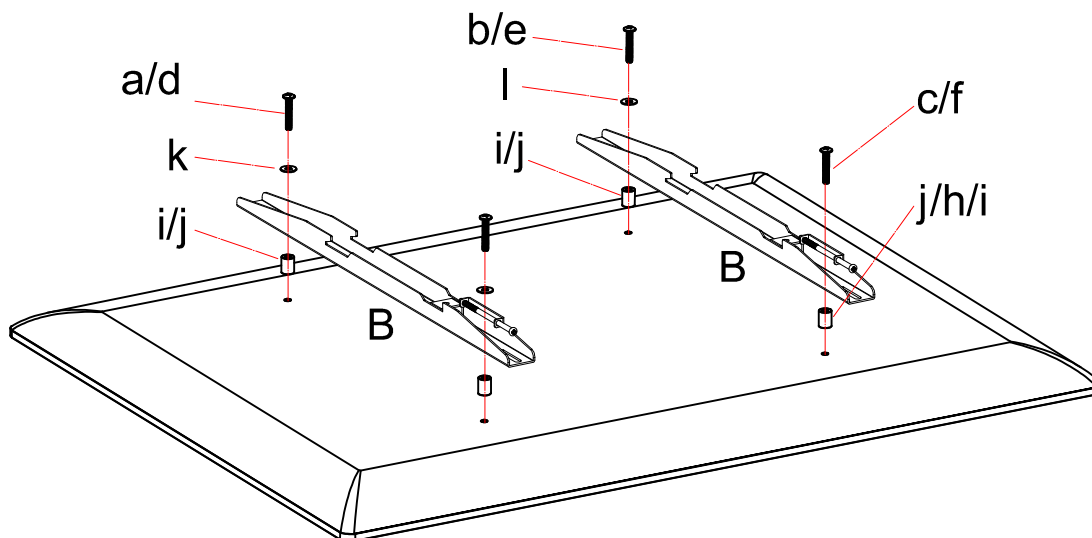

Figure 10
Step 4: Assemble the brackets to the display with suitable bolts, washers and spacers (if required), as Figure 10.”